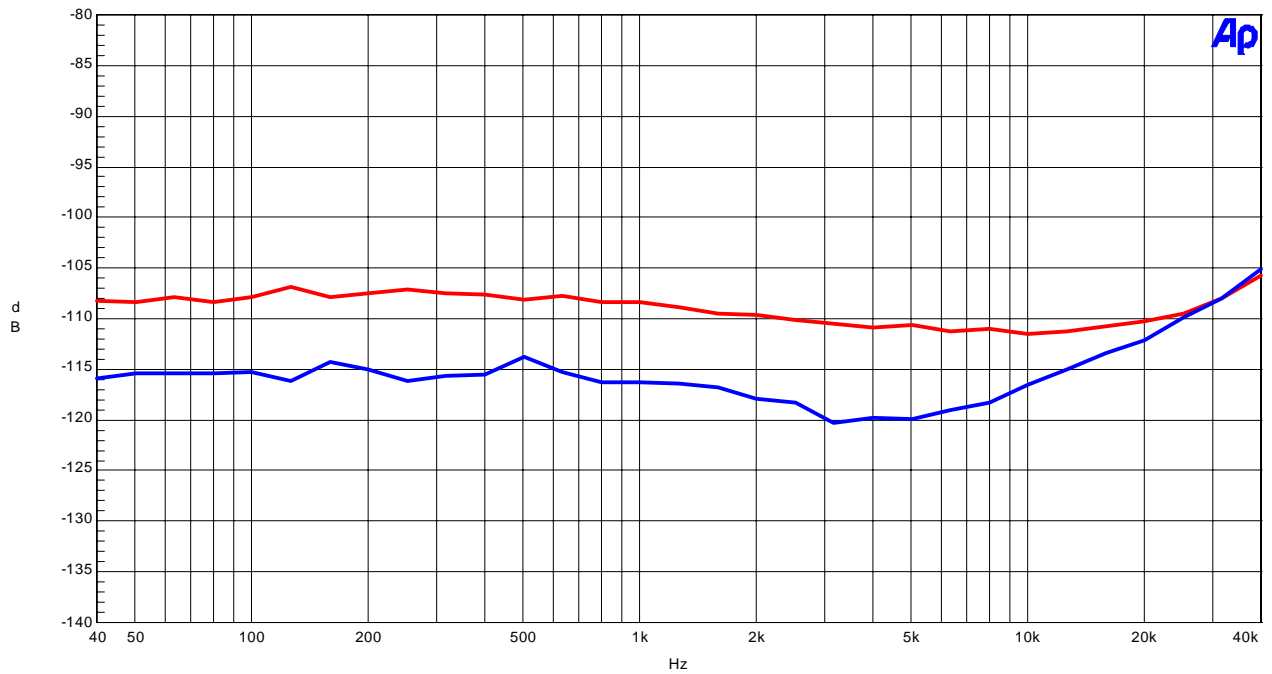

Figure 17. Cross-talk (Input Level=0dBFS)
- Figure 17. Cross-talk (Input Level=0dBFS)